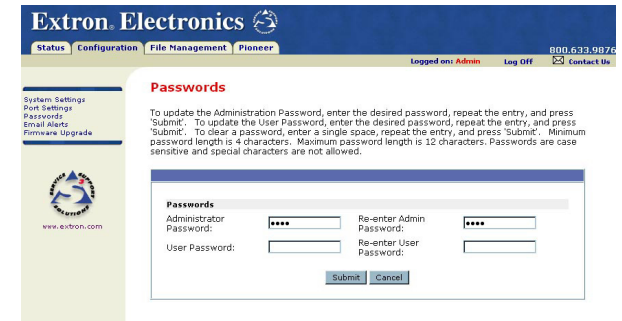

Figure 4-4 — Web server Passwords screen
As shown in figure 4-4, password-protected connections allow two levels of protection: administrator and user. Administrators have access to status information and all function control. Users have access to status information and limited function control. Read-only users have no privileges, and can only view current settings.
1. Click Passwords on the menu (on the left side of the window). The Passwords screen (figure 4-4) is displayed.